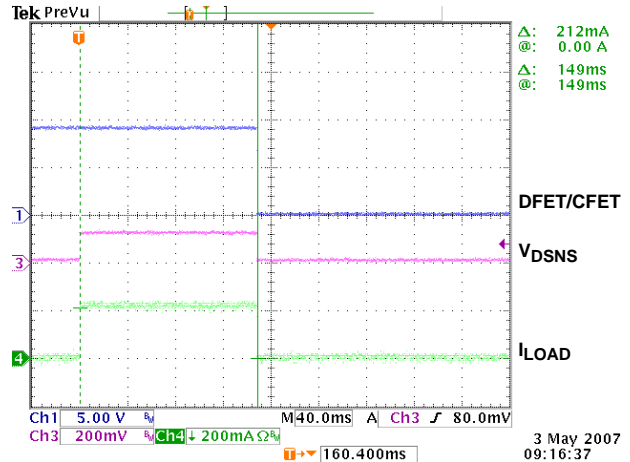

FIGURE 7. DISCHARGE OVERCURRENT TEST (0.1V THRESHOLD, 160ms TIME DELAY, 0.5Ω SENSE)
- Turn on the e-load output. This should cause the FETs to turn off (see Figure 7).